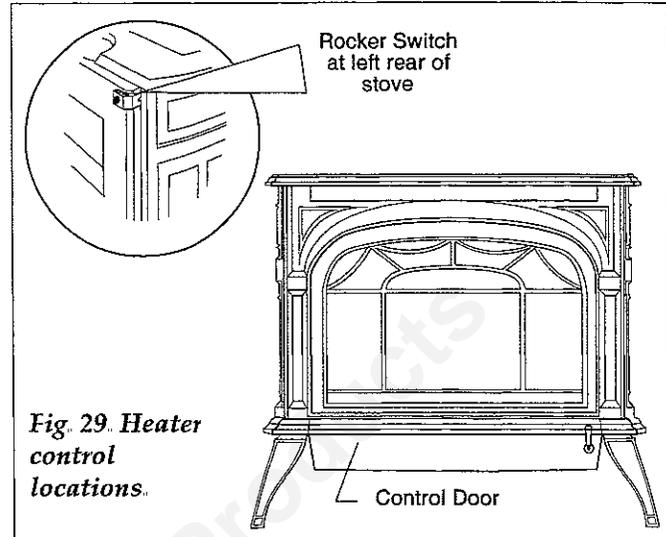

Fig. 29. Heater control locations.
The burner is equipped with a variable regulator that lets you adjust the gas input rate. To gain access to the gas control valve, use the small handle to swing open the valve control Access Door below the firebox opening. Once the pilot is lit, the rocker switch at the top left rear corner of the stove controls the burner. Fig. 29
1. Simply push the rocker switch to OFF. Fig. 29. The pilot will remain on. You can leave the pilot running.